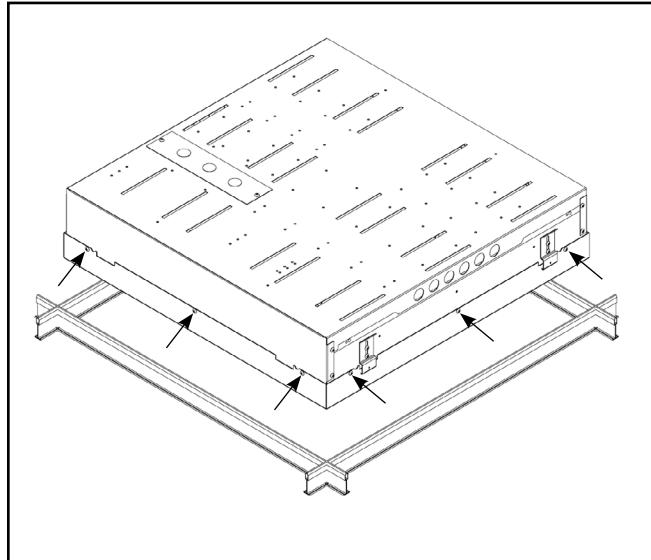

Figure 5.
1. To service fixture remove from T-grid to access LED Boards. Remove door cover from fixture, 12 screws 3 per side. (Figure 5)